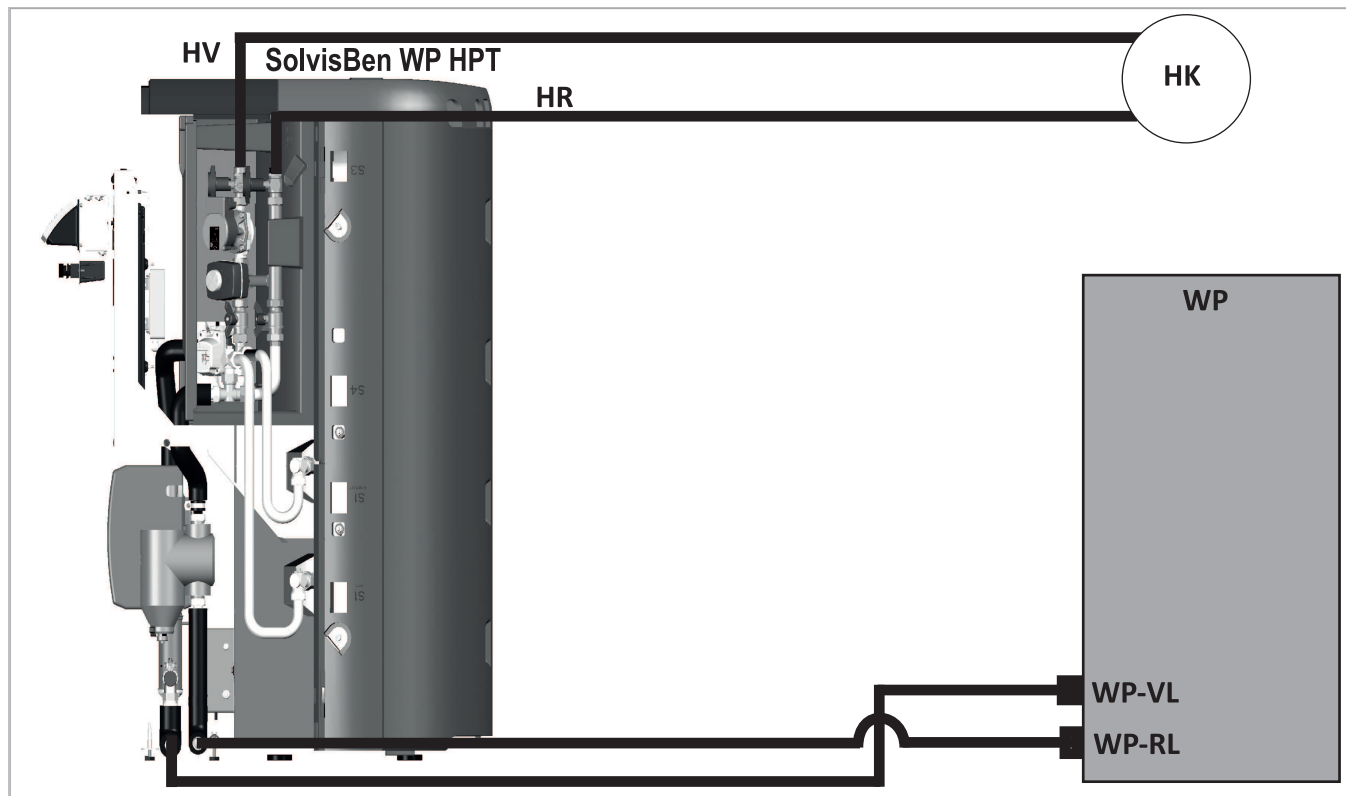

Fig. 3: Overview of the connection of the SolvisMia to the SolvisBen WP HPT
1. For information about connecting the heating pump flow and return flow from the heating pump on site to the SolvisBen, see → fig. 3.